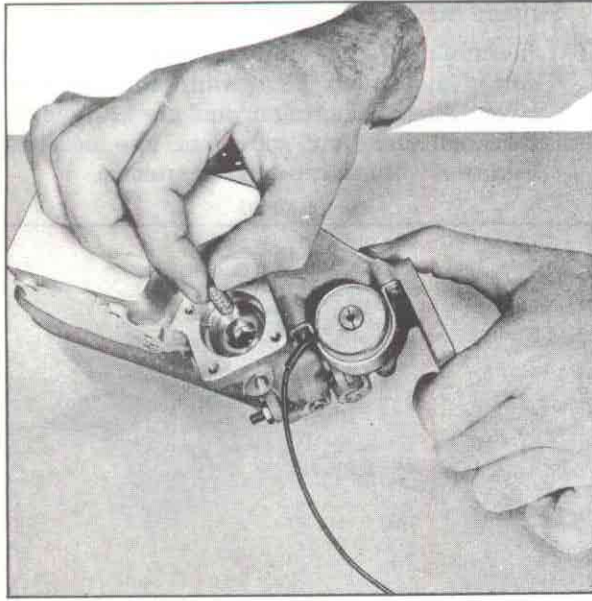

Figure 41
- Place spill plunger in housing sleeve with the solid end toward the linkage (fig. 41).